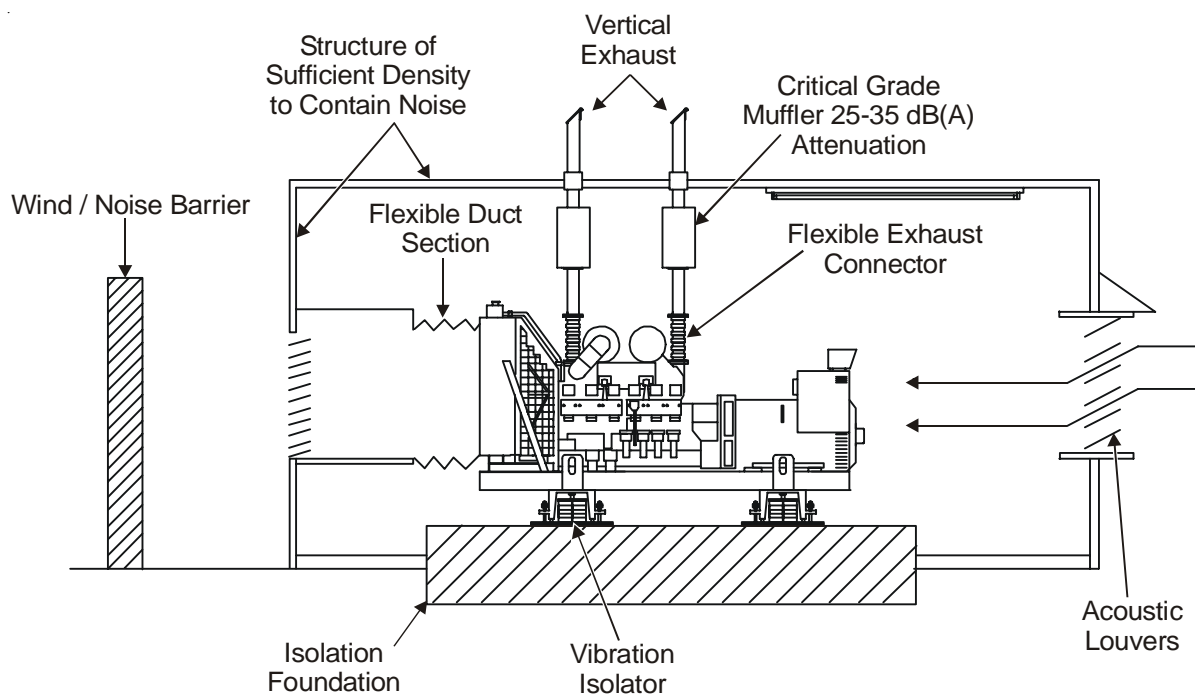

Figure 5. Reducing Noise
3. See Figure 5 on page 32 for typical measures in reducing noise.
Figure 5 below illustrates installation methods for reducing noise level to achieve a quieter operating generator set.